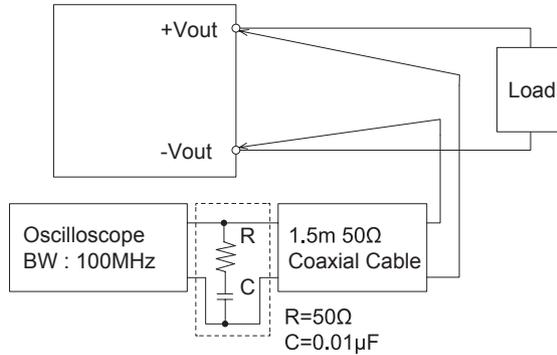

Fig.1.2 Method of Measuring Output Ripple and Ripple Noise
■ The specified ripple and ripple noise are measured by the method introduced in Fig 1.2.